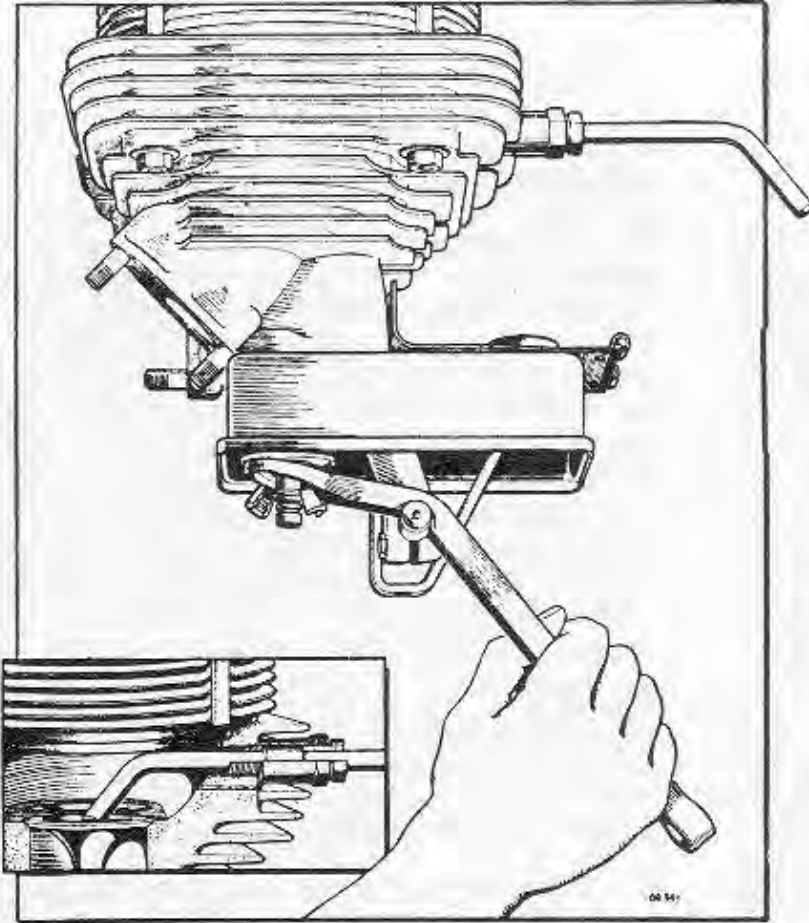

Fig. 5. Valve spring compressor and valve supporting tool
49. Using the valve spring compressor T1300-78A in conjunction with the valve supporting tool T800-6 as shown in fig. 5, a suspected, faulty, or broken valve spring can be replaced without disturbing the cylinder head. These tools are intended for servicing purposes only, and are unsuitable for workshop use.